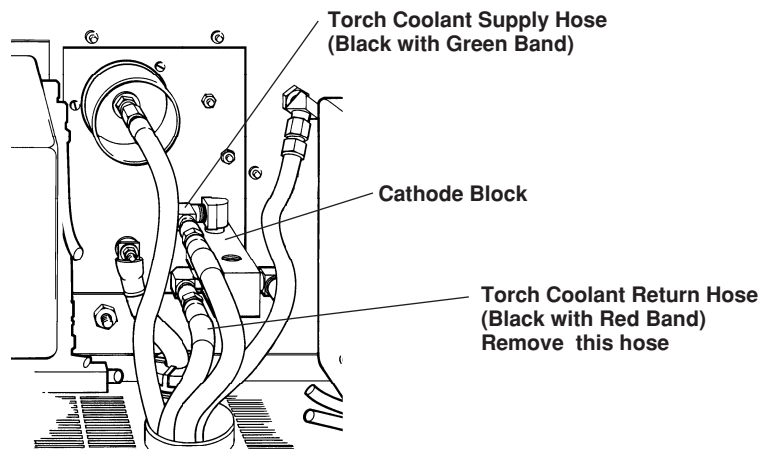

Figure 5-6 Torch Coolant Supply and Return Hoses
2. Locate the two coolant hoses that come off of the cathode block at the rear of the power supply (black hoses: one with a green tape band and one with a red tape band – See Fig. 5-6).
5. Disconnect the torch coolant supply hose (black hose with the green band) from the rear of the power supply . See Fig. 5-6.